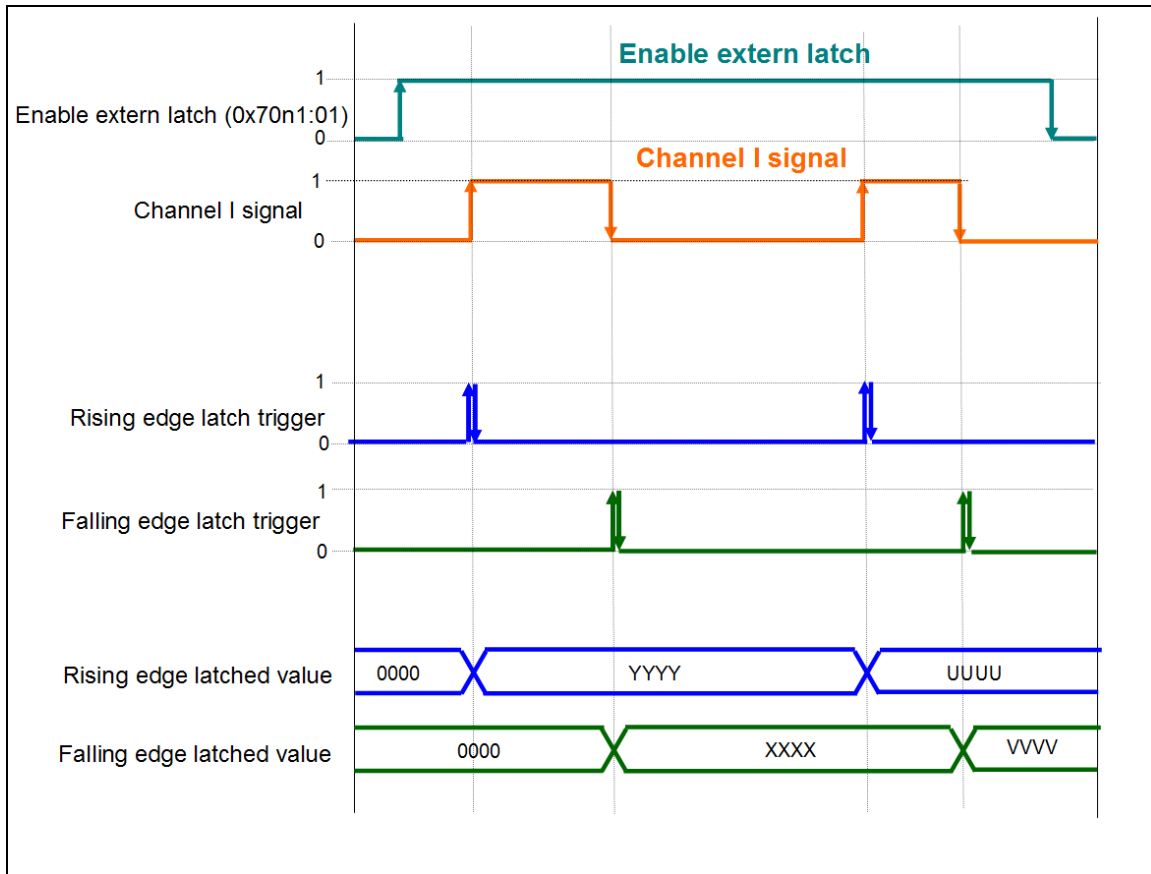

Figure 32: Rising and falling edge latch
- Position measurement: the value difference between the rising and falling latched position indicates the distance the encoder counter moved between the rising and falling input signal (Figure 32).